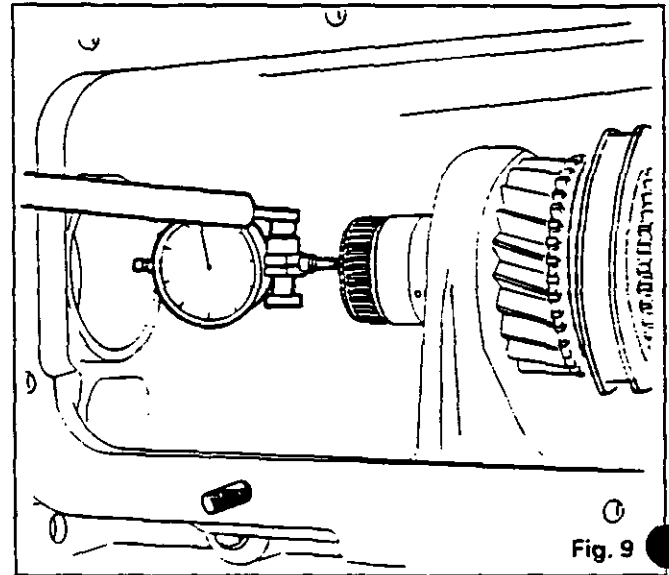

Fig. 9
40. Position the pointer of a dial gauge at the end of the shaft (Fig. 9).